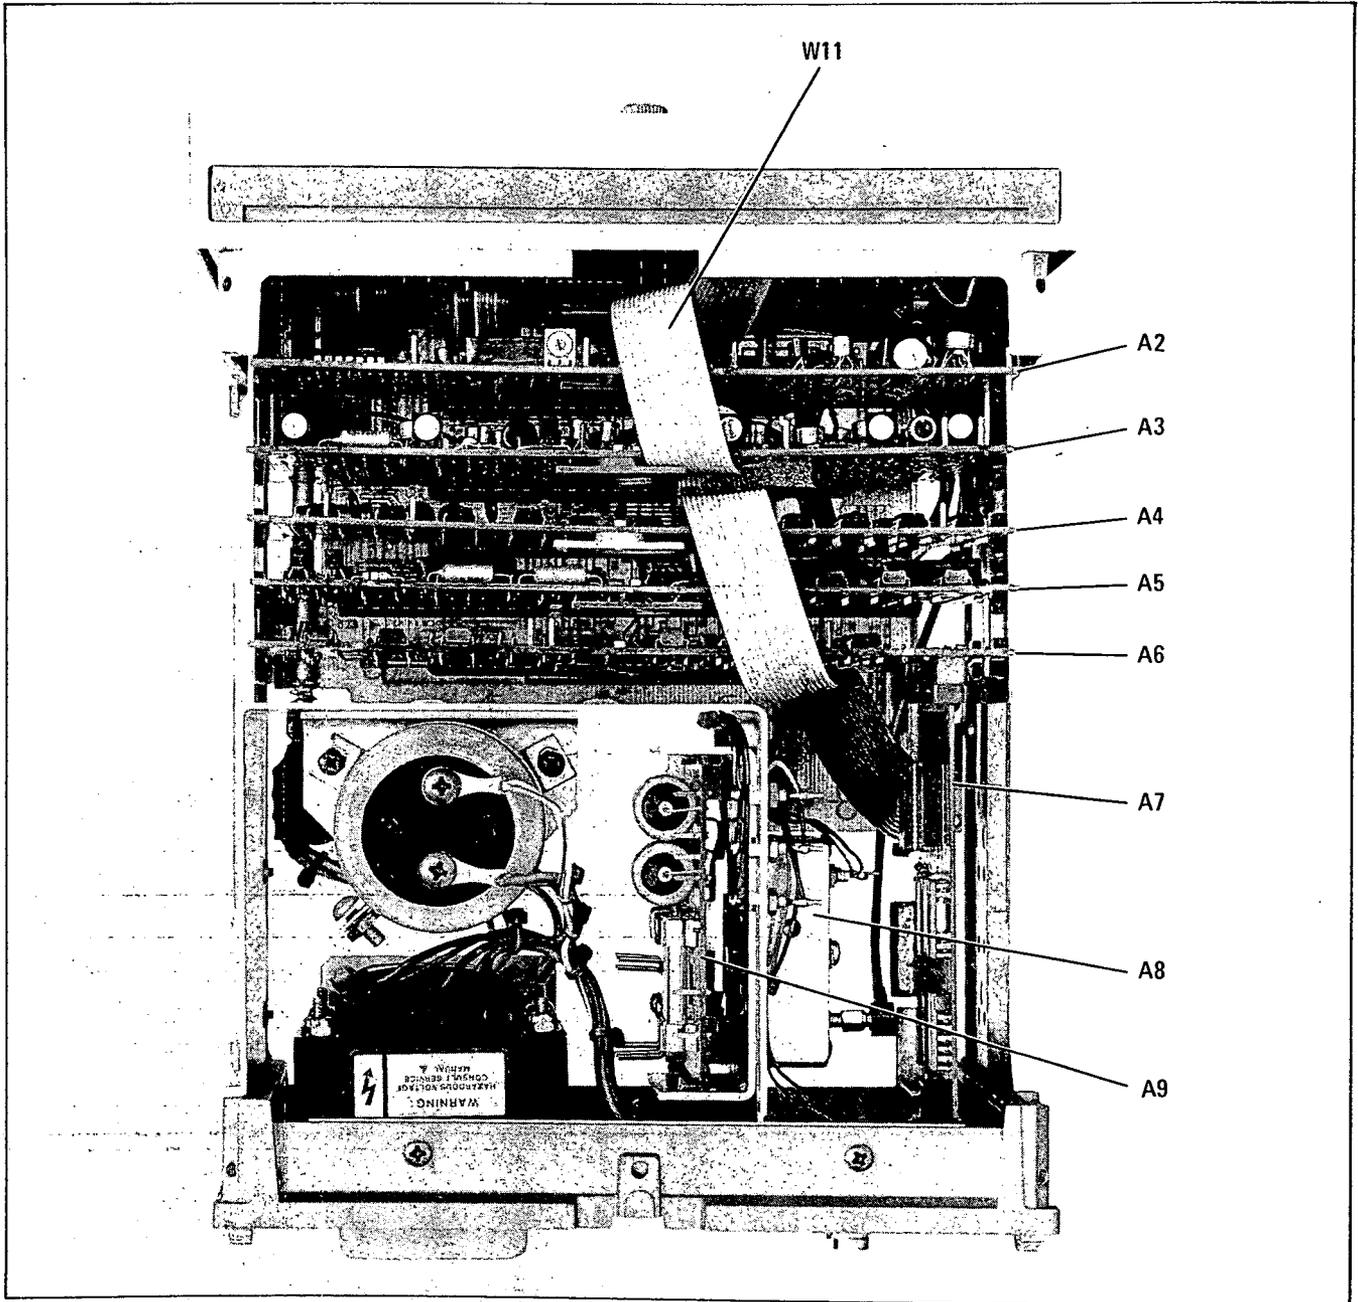

Figure 16-1. A6 Printed Circuit Board Location
- Locate the A6 printed circuit board assembly (refer to figure 16-1). It is parallel to the front panel, and furthest back (closest to the power supply).